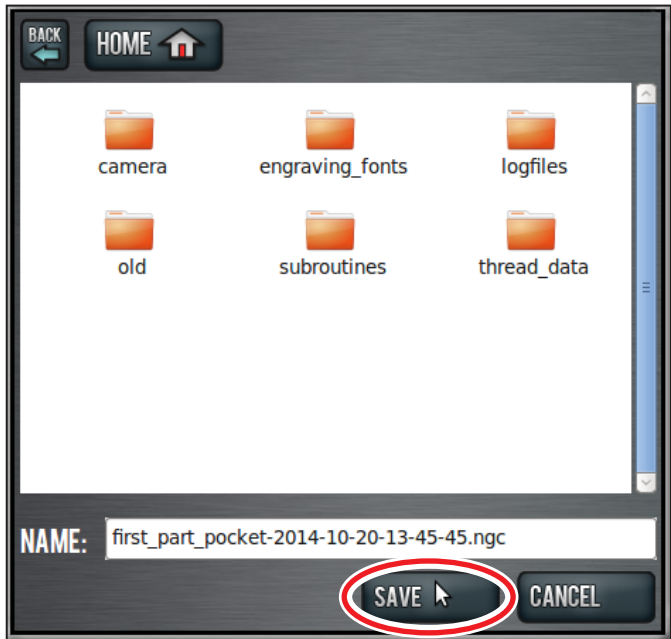
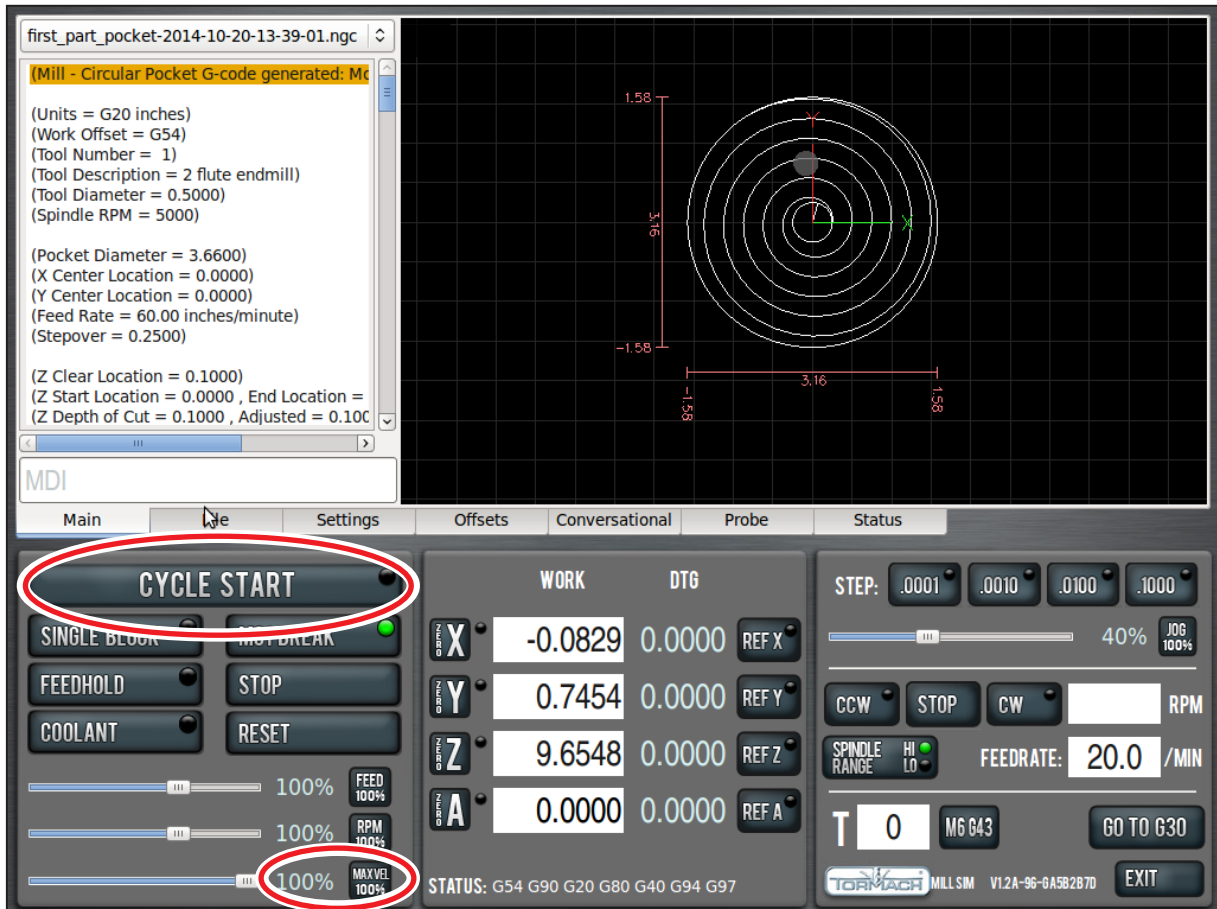

Figure 5.11
Figure 5.12
- Units are expressed according to the current G20/21 setting. If you are in G21 (metric), the feed rates will be in mm/min and the coordinates in mm. For the purposes of this tutorial, use imperial units (G20). You can check the current G20/21 setting by inspecting the string of active G-codes next to the word *Status* at the bottom middle of the screen (see **Figure 5.12**).
- When you click *Save* (see **Figure 5.11**) it also automatically loads into the control and displays the tool path (see **Figure 5.12**).
1. Grab the *Maxvel* slider (lower left hand corner of screen) by clicking on and drag it down to zero (see **Figure 5.12**).
2. Click *Cycle Start* button (see **Figure 5.12**). If the current tool is not *Tool 1* and you have configured the mill for manual tool changes, the *Cycle Start* button LED may blink requesting a tool change. Change the tool and confirm by clicking the *Cycle Start* button again. If equipped with an ATC, tool changes happen automatically without operator interaction.
3. Grab *Maxvel* slider again and slowly increase allowed velocity (see **Figure 5.12**). Bring velocity back down to zero when you get close to the part and double check values in the DROs to make sure that tool position looks correct. For example, if tool is 1/4" above the workpiece, Z DRO should read 0.2500. If everything looks correct, move *Maxvel* slider back up to resume part program.